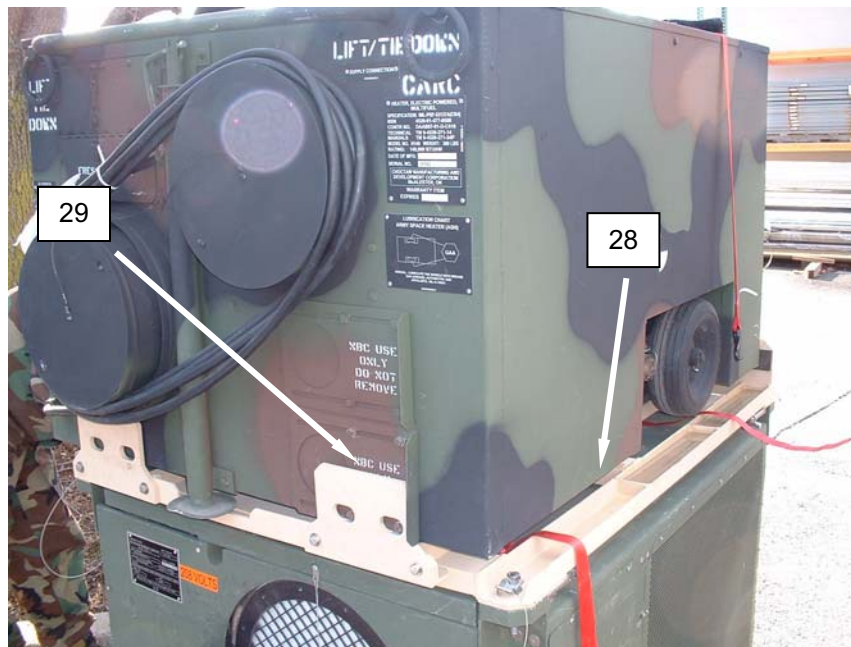

Figure 24. Stacking Adapter and Overhang Plates.
35. Locate the stacking adapter (**Figure 24, Item 28**) and the overhang plates (**Figure 24, Item 29**).